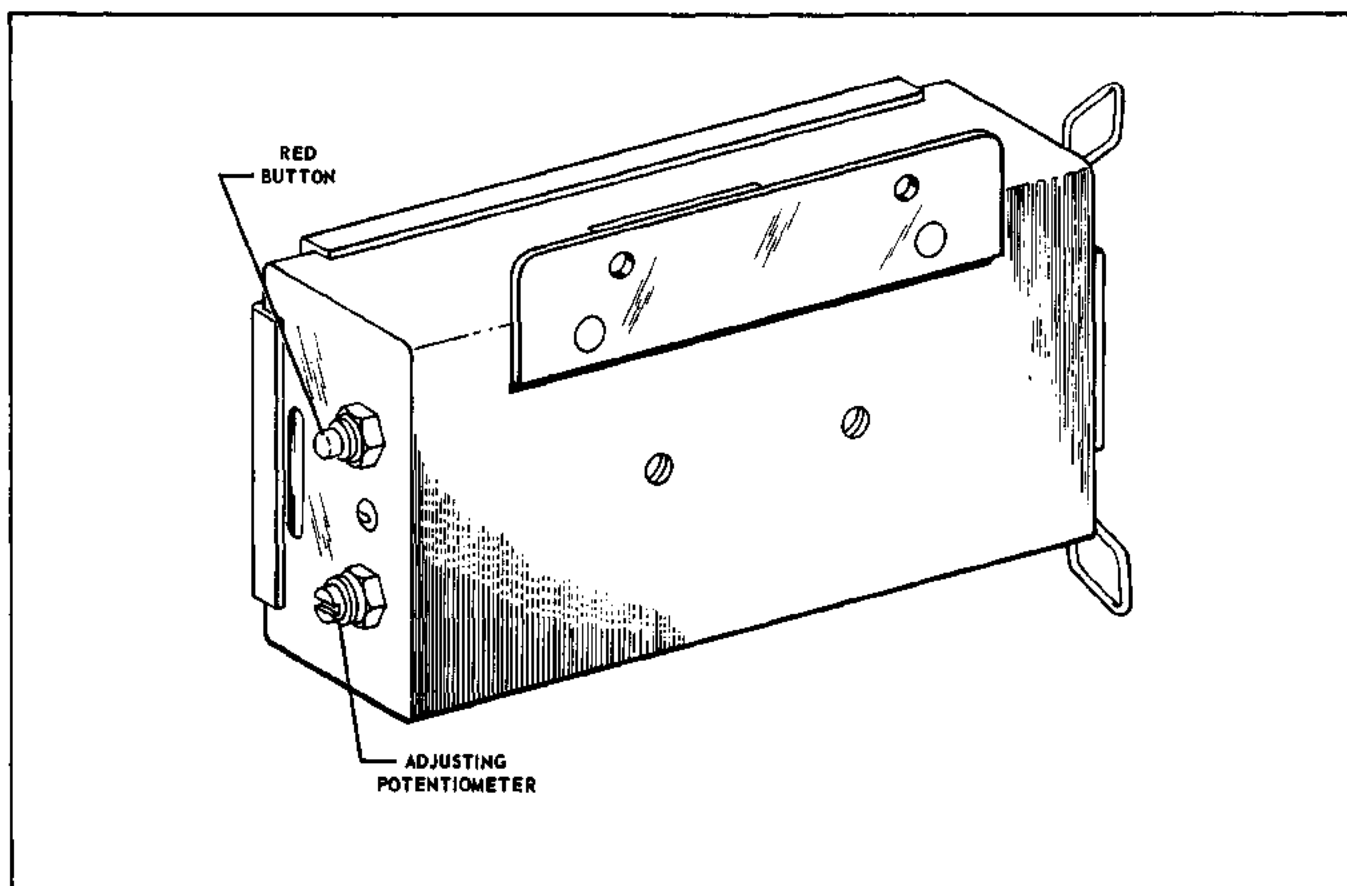

Figure 11-1. Glide Slope Coupler
**11-1. INTRODUCTION.** The information in this section will list the equipment necessary to bench check the Glide Slope Coupler and the proper procedure for connecting this equipment. The bench set-up procedure is also described. For red button and adjusting pot location on Glide Slope Amplifier, refer to Figure 11-1. For functional ground and flight checks, refer to Section X. For Schematics, refer to paragraph 11-4 of this section.
36. Rotate slot head potentiometer on glide slope coupler full clockwise. (Refer to Figure 11-1.)